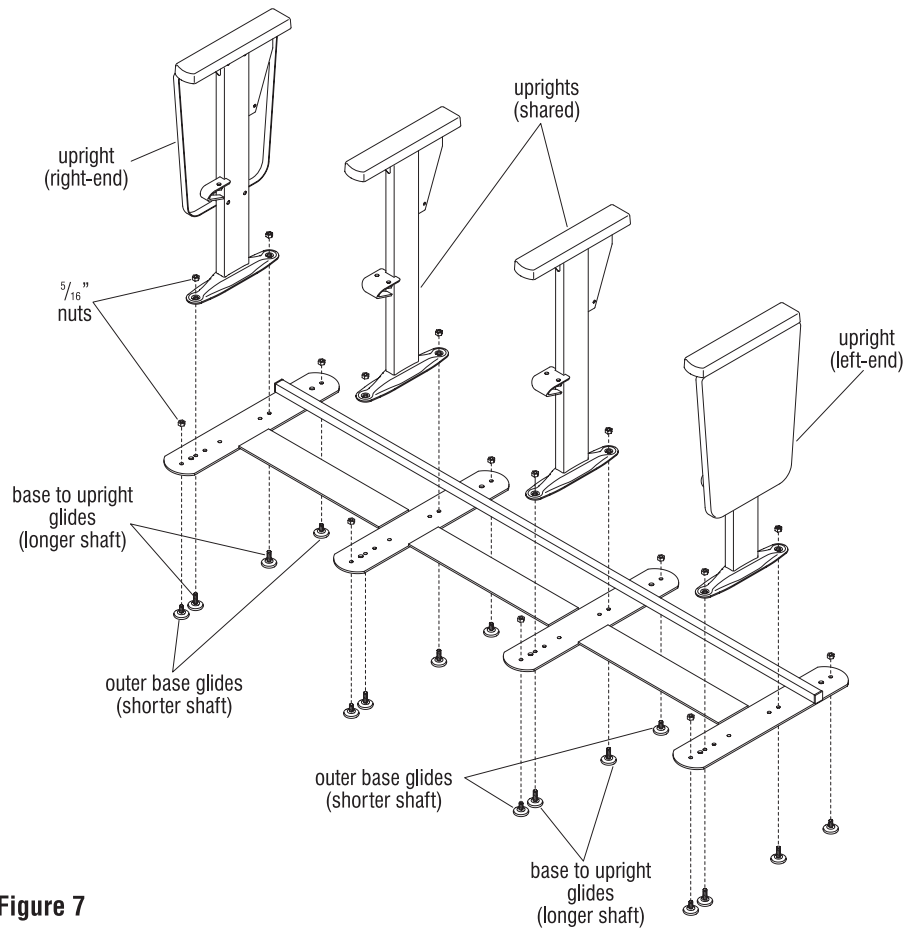

Figure 7
1. Begin installation by first locating the "outer base glides", with the shorter threaded shafts. As illustrated, place all outer glides (shorter shaft) up through the mounting holes in the ADA base and secure using $\frac{5}{16}$ " nuts provided (Figure 7).
2. Locate the longer shaft, "base to upright glides" provided. Starting at one end of the ADA base with the appropriate end upright, position the foot of the upright onto the ADA base and align two mounting holes as illustrated. Insert the base to upright glides (longer threaded shaft) up through the ADA base and through the mounting holes in the foot of each upright as illustrated. Secure the components together using $\frac{5}{16}$ " nuts on the glides (Figure 7).